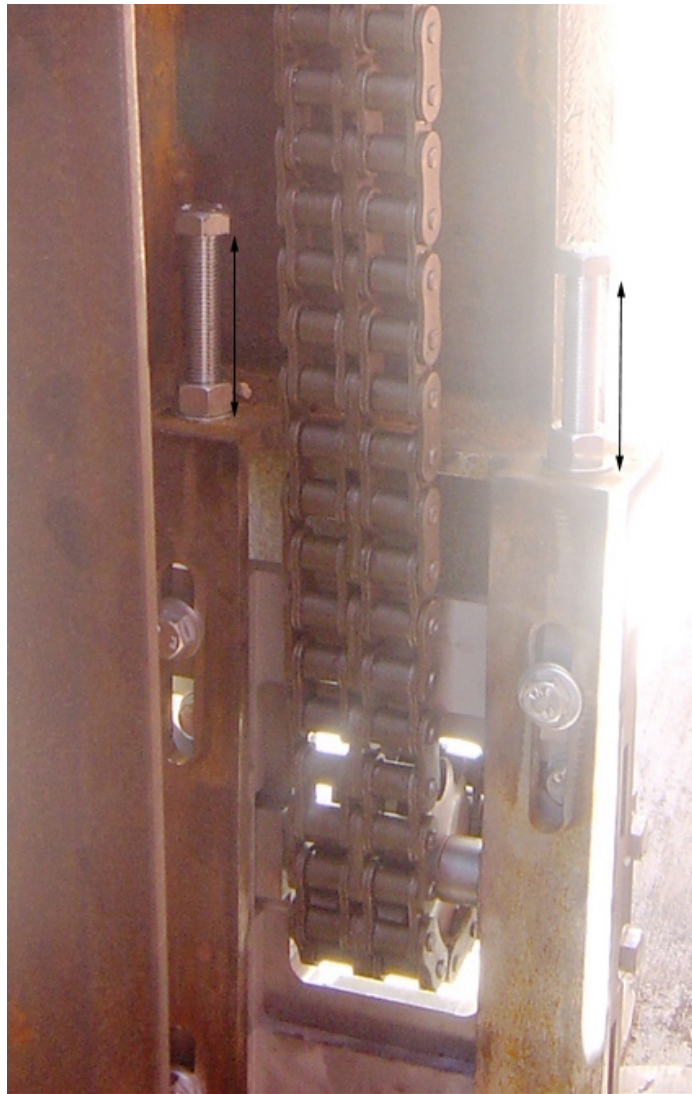

Figure 4.12
- i) Check the distance from the underside of the jacking screw bolt head, to the outside of the Shutter Drive Chain Pre-tensioner Assembly plate(see Figure 4.12) on both jacking screws, and check to ensure they are equal.